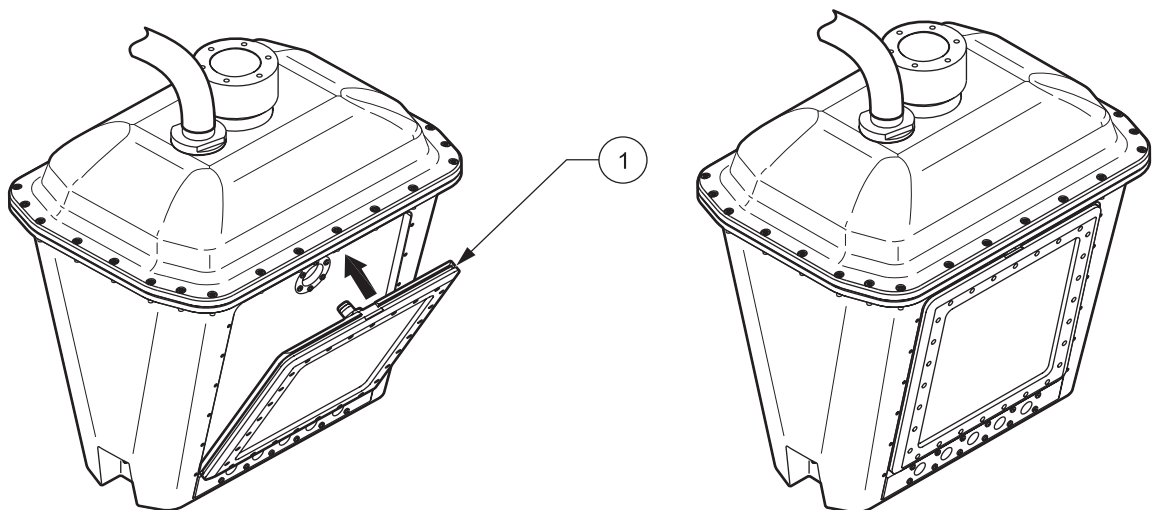

Figure 2 Installing the Filters
1. Insert the filter on the lower end of the Filter Probe sc (Figure 2).